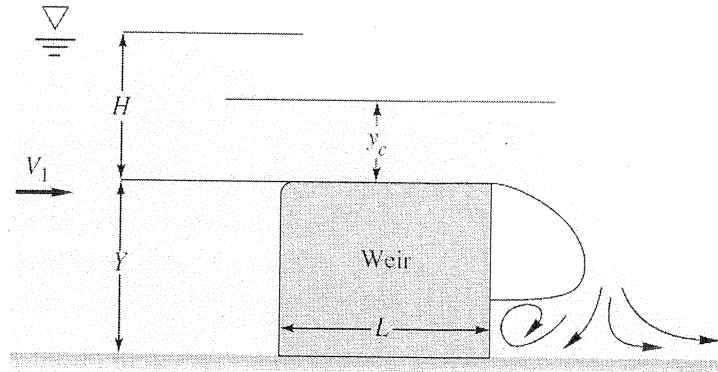

Figure Q4: Flow over wide, well ventilated broad-crested weir
- (i) Figure Q4 shows a broad-crested weir, in a wide channel which creates a short run of nearly one-dimensional critical flow. The flow upstream is subcritical, accelerates to critical at the top of the weir, and spills over into a supercritical nappe.